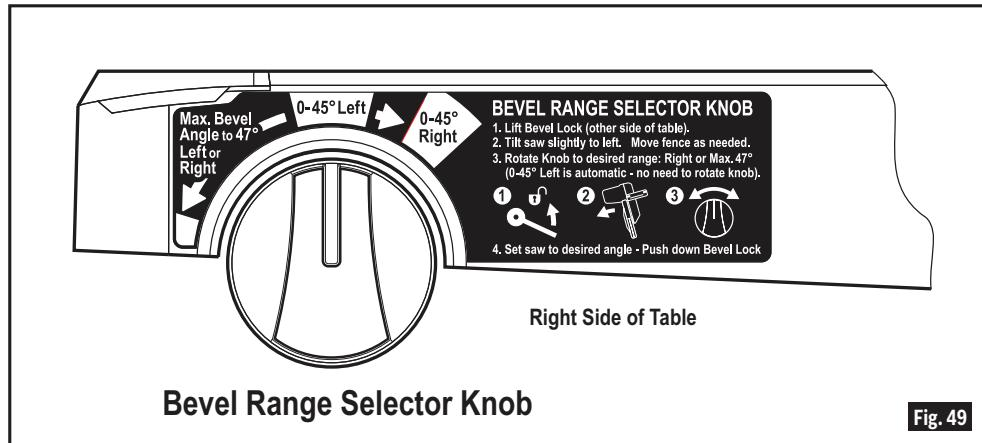

Fig. 49
Bevel range selector knob – This saw has a front control on the right side of the table arm. This is called the bevel range selector knob (item 41 – page 12). It is linked to stops and locking mechanisms in the rear which control the tool's ability to quickly and accurately be positioned to make bevel cuts. There are positive stops at the important 45° left, 0° (vertical), and 45° right angles (see Figure 49).